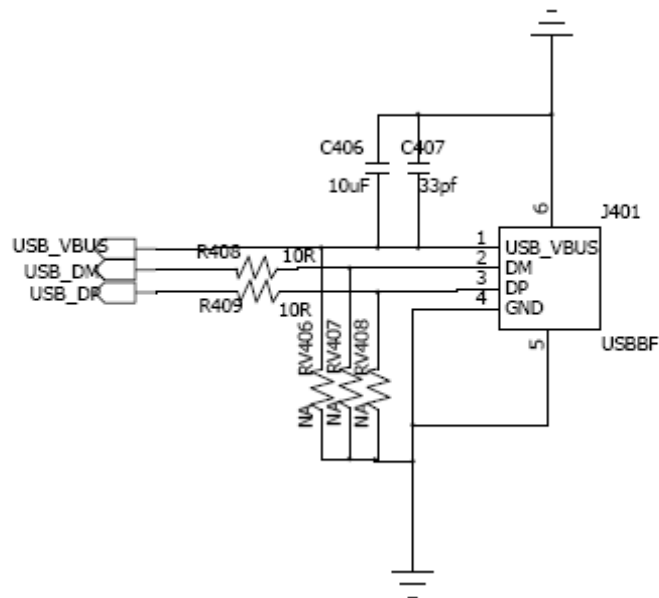

Figure 2-7 The reference circuit of USB interface
The reference circuit of USB interface is shown in figure 2-7.
- 2) For reducing the BER of USB transmission, it is recommended to add a resistor with values below  $10\ \Omega$  to the DM and DP in USB interface. Just like the resistors R408 and R409 in figure 2-7.